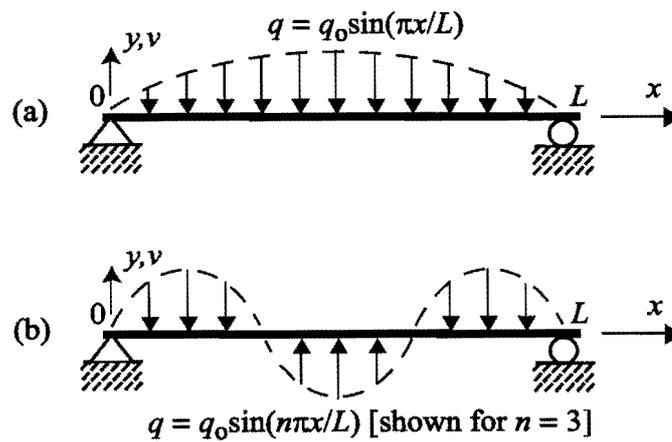

Figure 13
13. The uniform elastic beam shown in Figure 13(a) is of length L [m] and its bending stiffness is B [Nm^2]. It is simply supported at its ends, and is straight when not loaded. It is now subjected to a non-uniform distributed transverse loading of intensity
(e) Show that for a loading $q = q_0 \sin(n\pi x/L)$, as in Figure 13(b), the transverse deflection is given by $v = -(q_0 L^4/n^4 B \pi^4) \sin(n\pi x/L)$.